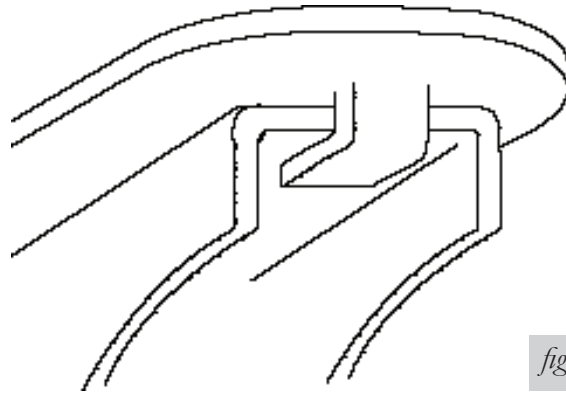

fig. 7
5. On late model Excursions, it may be necessary to splay the tabs on the lower bracket to fit the jounce bumper strike plate properly. Do this by putting the bracket in a vice and bending the tabs slightly with a crescent wrench (Fig. 3b). Check fit by sliding lower bracket onto the jounce bumper strike plate. It may be necessary to tap into place using a hammer (Fig. 7).
2. Push the lower bracket towards the spring so that the tab locks around the strike plate as illustrated in Figure 7.